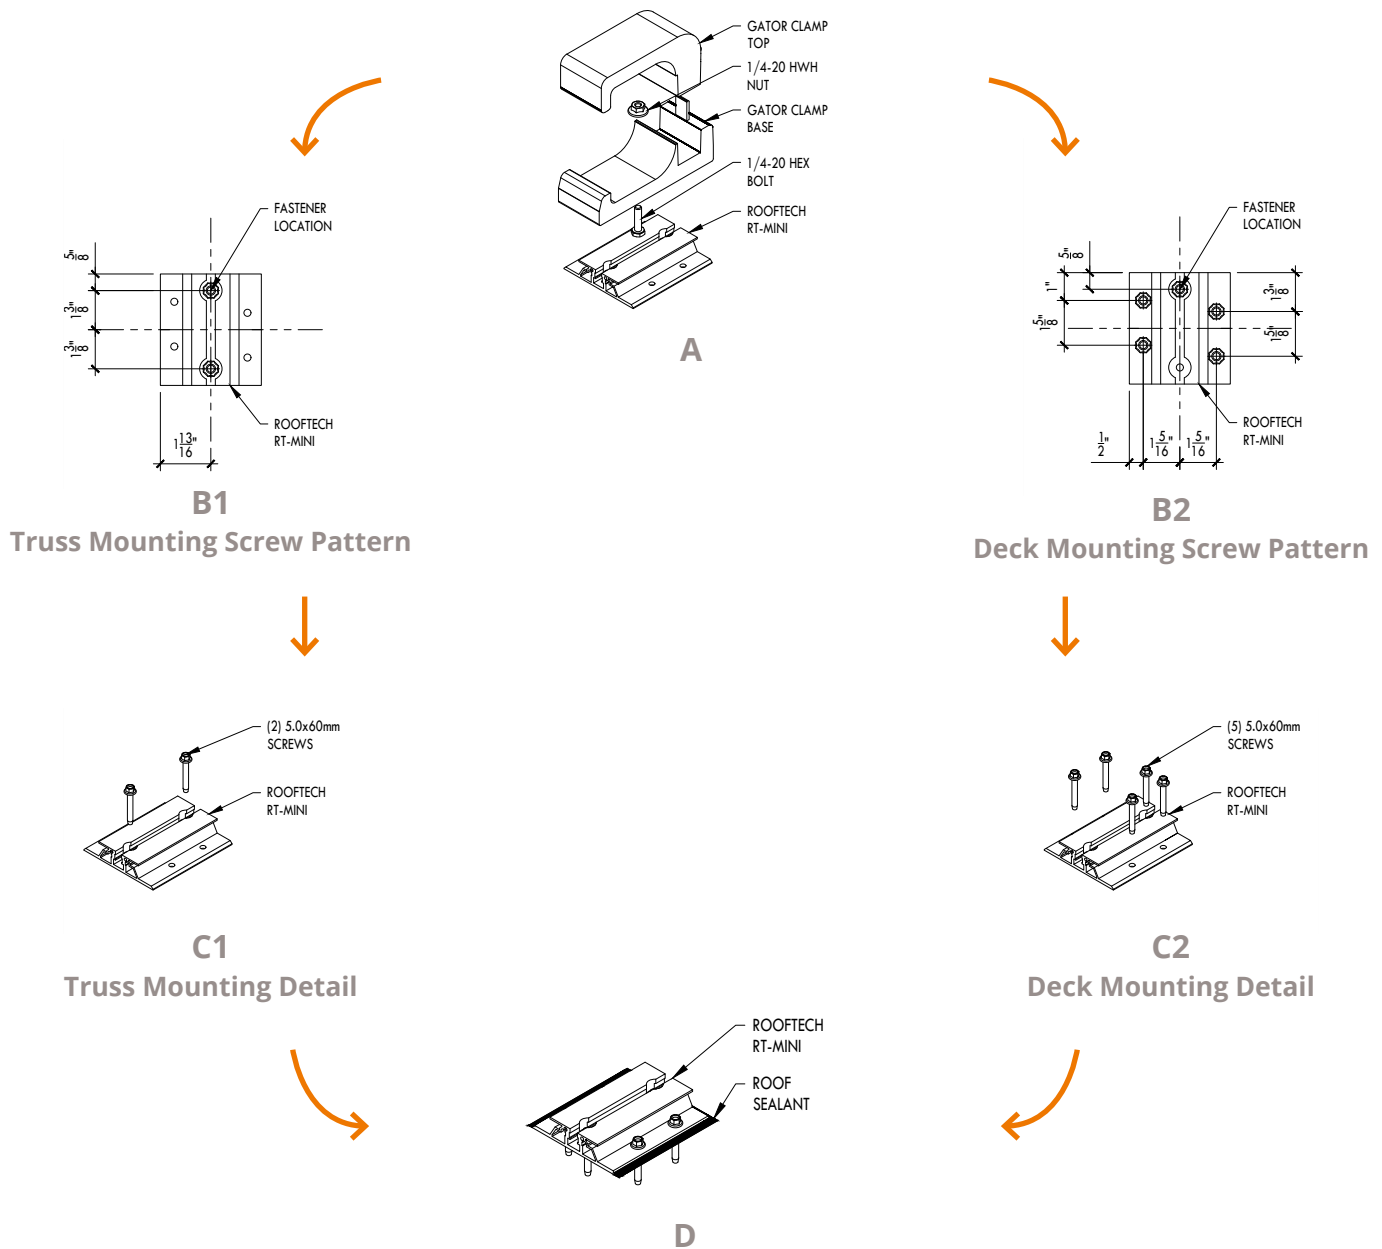

Fig. 6
- c. If mounting into trusses, position the first RT-Mini on the chalk line and centered over a roof truss. (Fig. 6-B1) If deck-mounting, position wherever the first Gator Clamp will be located. (Fig. 6-B2)
- d. Peel off the protective paper and firmly press the RT-Mini onto the roof making sure the butyl sealant has adequate contact with the roof surface. Slide the stainless steel ¼-20 hex bolt into the top slot in the RT-Mini. (Fig. 6-A)
- e. If mounting into the roof truss install the (2) included M5 x 60 mm (#10 x 2.375") wood screws through the two holes in the center of the mount. (Fig. 6-C1) If deck mounting, then (5) screws are required with (4) on the outer holes one in a center hole of the mount. (Fig. 6-C2)
- g. Apply roof sealant to the top and each side edge of the brackets. (Fig. 6-D)
- h. Once the RT-Mini is anchored into the roof attach the Gator Clamp by placing it on top of the RT-Mini with the stainless steel ¼-20 HWH bolt coming up through the hole. Fasten the mount by tightening a stainless steel 1/4-20 hex nut onto the bolt. (Fig. 6-A)
7. Install (2) #6 x ¾" stainless steel screws to secure Gator Clamp assembly.